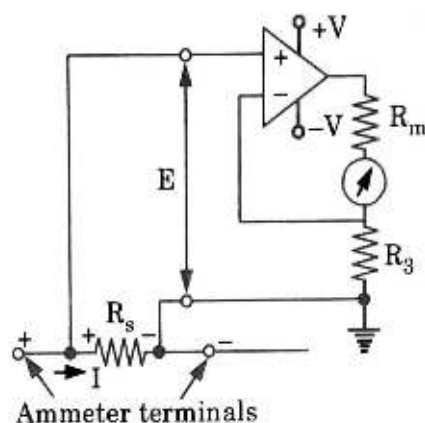

Fig. 2.8.1. An electronic voltmeter.
2. This voltage is measured by the voltmeter. Fig. 2.8.1 shows the basic circuit for measurement of very low current.